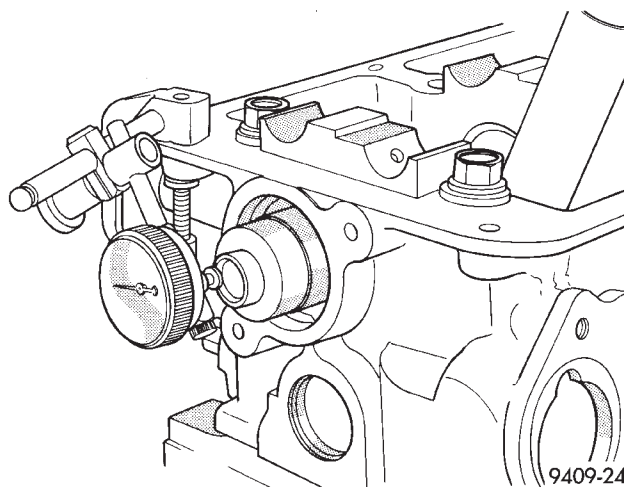

Fig. 20 Camshaft End Play
- (1) Oil camshaft journals and install camshaft without rocker arm assemblies.
- (2) Using a suitable tool, move camshaft as far rearward as it will go.
- (3) Zero dial indicator (Fig. 20).
- (4) Move camshaft as far forward as it will go.
- (5) End play travel: 0.1 - 0.2 mm (0.004 - 0.008 in.). Max. Travel: 0.4 mm (0.016 in.).